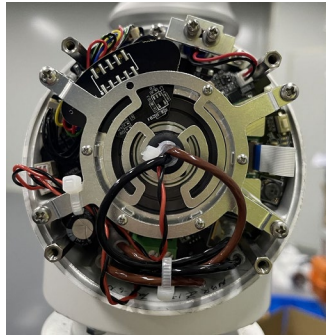

Figure 3-10 Reconnect the wires
- Reconnect the wires and tie them with nylon zip ties, as shown in Figure 3-10: